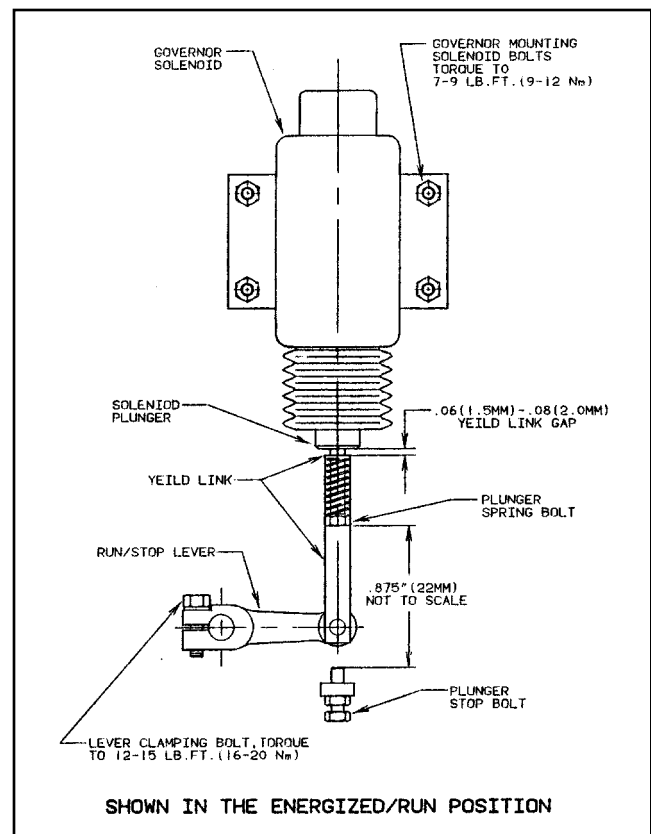

Figure 3 - Shown in the Energized/Run Position
IMPORTANT: To insure the engine will produce rated nameplate horsepower, the gap between the yield link and the solenoid plunger must be properly adjusted. (Refer to Figure 3.)
Position the mode selector switch on the instrument panel (Fig. 3, Page 32), to the MANUAL position. Manually push the solenoid plunger into the solenoid. When the plunger is at full travel, the hold coil magnetic field will hold the plunger, linkage and the run/stop lever in the run position. Push on the plunger spring bolt, not the linkage or the lever. Check the gap at the narrowest point and adjust if necessary. (Refer to Fig. 3). After the check is completed return the mode selector switch to the AUTOMATIC position.
Adjust the Gap by loosening the Lever Clamping Bolt (Fig. 3), and rotating the Run/Stop Lever on the governor shaft to the desired position and re-torque the clamping bolt. Re-check the gap and repeat adjustments if necessary. After the check is completed return the mode selector switch to the AUTOMATIC position.
Adjust the gap by loosening the four (4) Governor Solenoid Mounting Bolts (Fig. 3), slide the Solenoid to the desired position and re-torque the mounting bolts. Re-check the gap and repeat the adjustment if necessary. After the check is completed return the mode selector switch to the AUTOMATIC position.